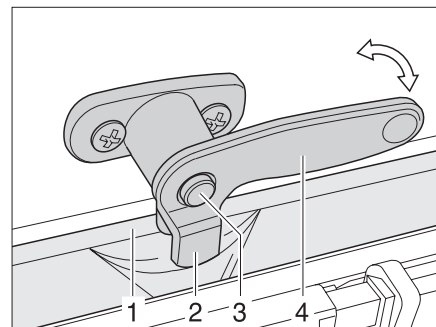

Fig. 37 Catch lever with safety knob in "Continuous ventilation" position
- ▶ If it exists, press the safety knob (Fig. 37,3) down and hold it.